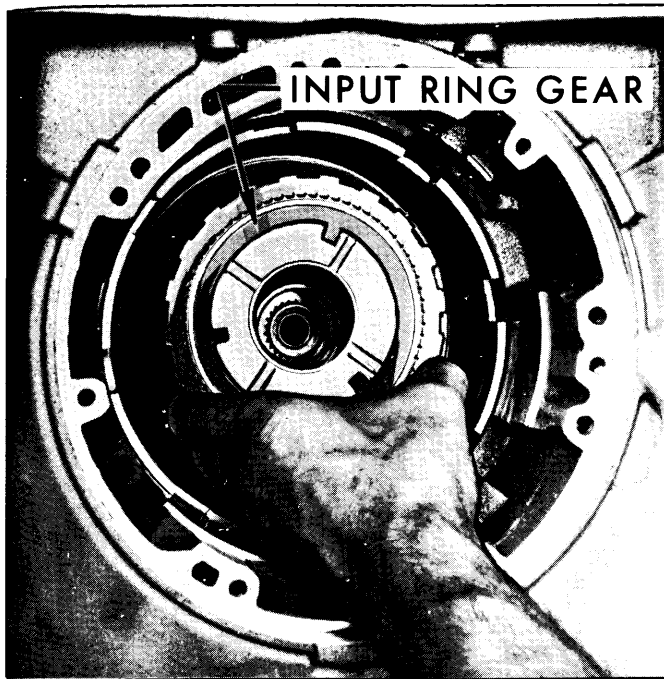

Fig. 7-41—Removing Input Ring Gear
9. Remove input ring gear. (Fig. 7-41)